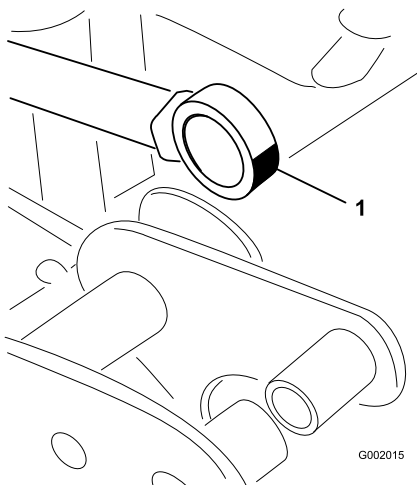

Figure 71
- Swivel the rod-end bearing and apply grease into the bearing (Figure 71).